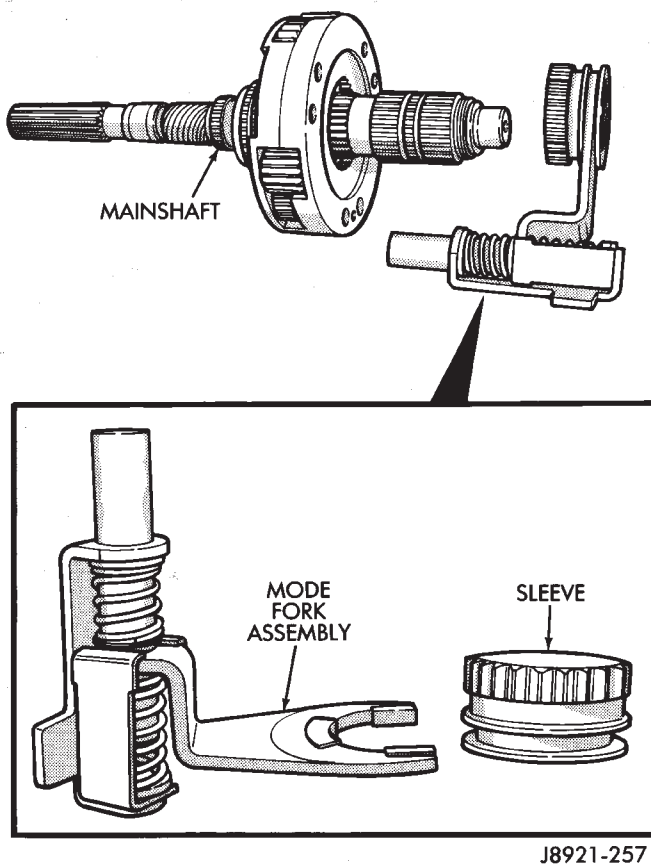

Fig. 18 Removing Mode Fork And Sleeve
(30) Remove mode shift sleeve and mode fork assembly from mainshaft (Fig. 18). Note position of mode sleeve in fork and remove sleeve.